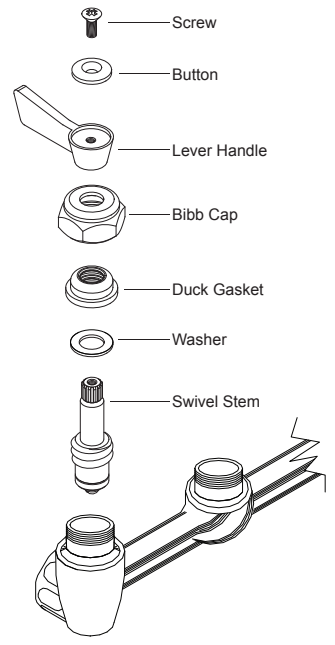

Fig.2 ( Installation of Swivel Stem)
4. Insert new swivel stem valve ( see Fig.2 ) into the control valve body inlet. Make sure swivel stem valve is closed.